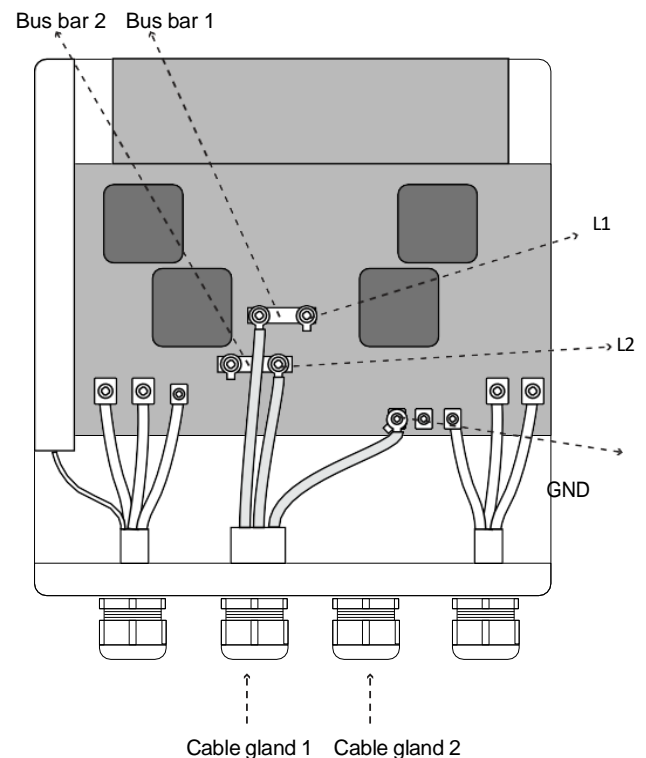

Figure 6
(refer Figure 6)
- Unscrew the cable gland 1 at the bottom of the unit (see Figure 6) and pass the input wire through the cap of the gland into the unit box.
- Remove bus bars 1 and 2 (see Figure 6).
- unit board as marked in the Figure 6.